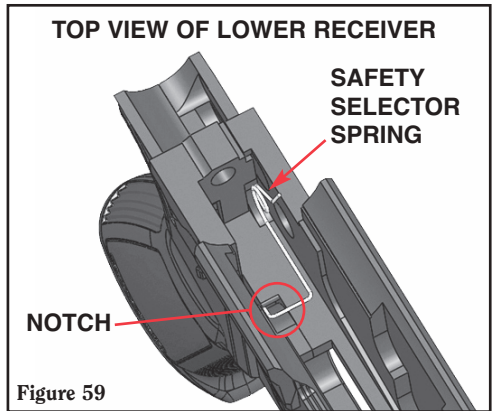

Figure 59
**NOTE:** Be sure the safety selector spring does not pop out of the notch at the bottom of the trigger pocket of the lower receiver. (See Figure 59.)